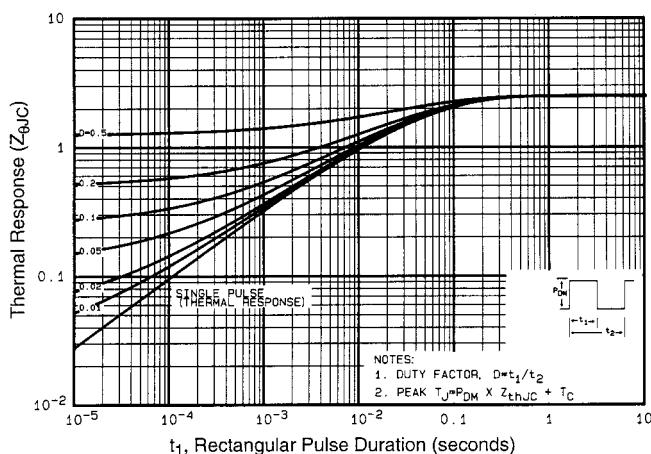

Fig 11. Maximum Effective Transient Thermal Impedance, Junction-to-Case
① Repetitive rating; pulse width limited by max. junction temperature (See Figure 11)
③ $I_{sp}\leq 2.5\text{A}$, $dI/dt\leq 50\text{A}/\mu\text{s}$, $V_{DD}\leq V_{(\text{BR})\text{DSS}}$, $T_J\leq 150^\circ\text{C}$ ② $V_{DD}=50\text{V}$, starting $T_J=25^\circ\text{C}$, $L=60\text{mH}$